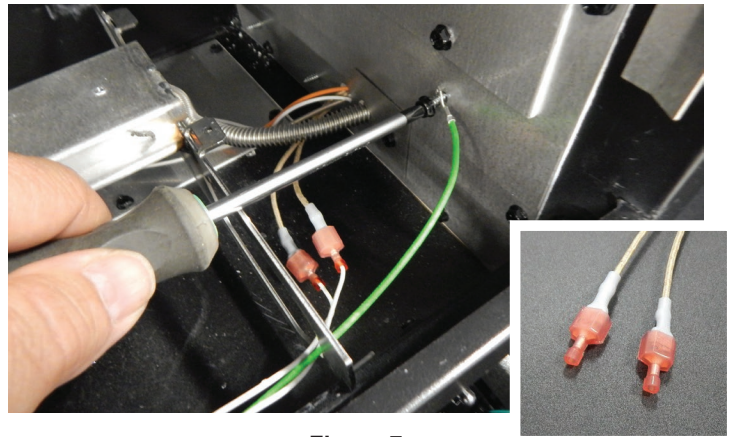

Figure 7
- Locate and remove the 5/16" Hex Hd screw on the right side of the Firebox as shown in **Figure 7**, then re-install while securing the end of the Green Ground wire terminal. Remove the two pink protective terminal caps from the two tan light accessory wires located near the right side of the firebox (see inset) and discard, then connect these tan wires to the LK9 Light wire terminals. **See Figure 7.**